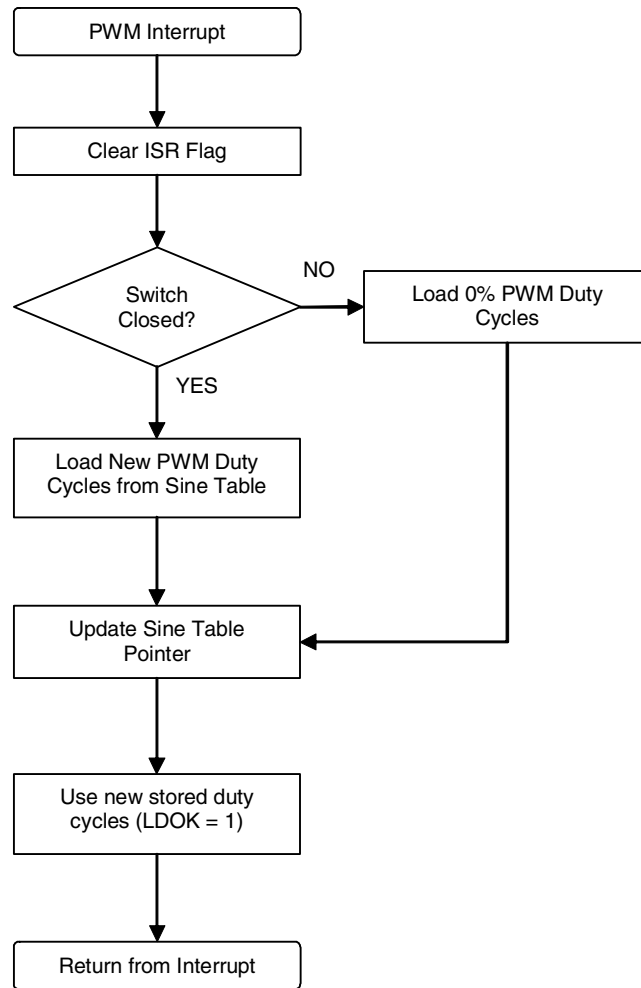

Figure 4. PWM Interrupt Service Routine Flowchart
- The PWM duty cycles are reloaded continuously so that the output frequency seen by the motor coils is a three-phase sinusoid 60-Hz signal on a PWM frequency of 15.625 kHz. See the flowchart in Figure 4.